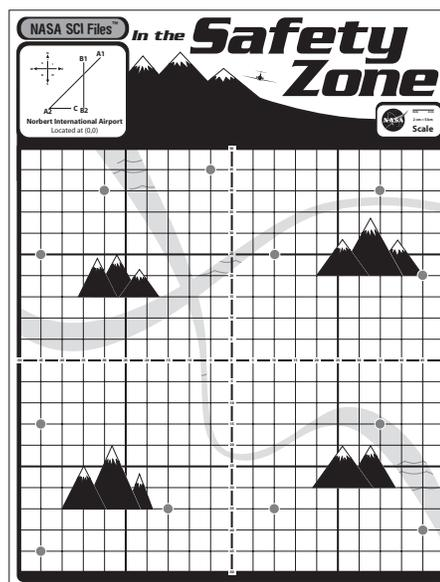

Figure 1
1. Distribute game boards and other necessary materials to each group: (1) Flight Plan (p. 71) to record landing times, (2) Tracking Chart (p. 72) to track the progress of the assigned plane(s), (3) Safety Rating Card (SRC) (p. 73) to keep track of the total points earned, and (4) Game Constraints (p. 73).
7. Use the answer key (Figure 1) to award 1 point for each correctly plotted aircraft. Record the total point value on each group's Safety Rating Card (SRC) (p. 73).